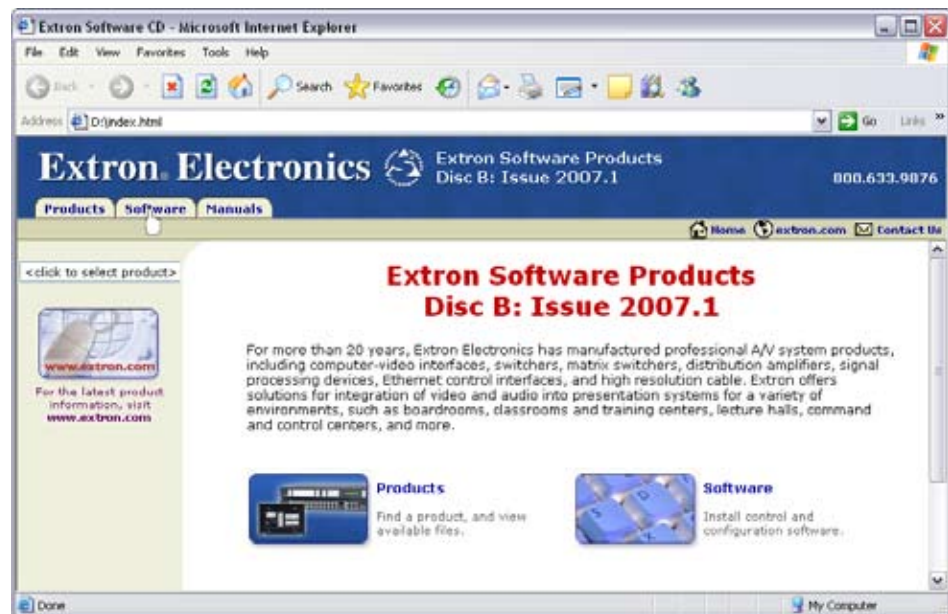

Figure 4-6 — Software CD window
The Extron software CD window appears (figure 4-6).
2. Click the Software tab (figure 4-6).